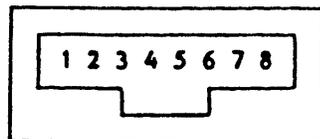

Figure 5. Page Jack Locking Into Jack with Tab Opening Down
PAGE Jack: This jack is a 4-pair modular jack for connecting an external paging system. Pin assignments are shown in Figure 5. Pins 5(T) and 4(R) make up a balanced 600-ohm bidirectional voice pair. The remaining pins are paired and provide 3 sets of relay contact closures for paging zone selection as shown in Table A.